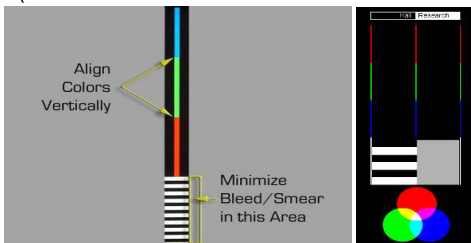

Figure 4.1 - Typical test patterns used for adjusting compensation
- The UP or DOWN buttons can now be used to adjust the high frequency (HF) compensation up or down until the video no longer looks smeared (see figure 4-1 & 4.2 below).